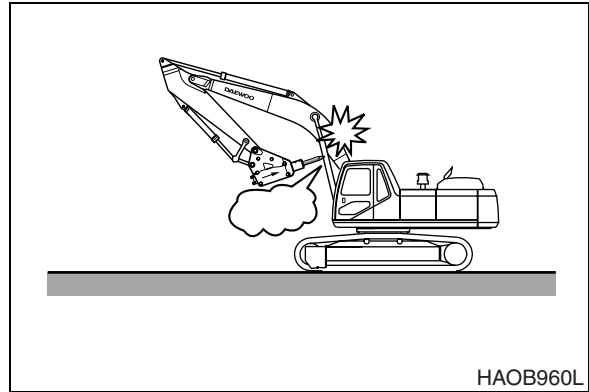

Figure 77
9. Do not curl the breaker tool tip into the arm or boom when traveling or parking the excavator. See Figure 77.